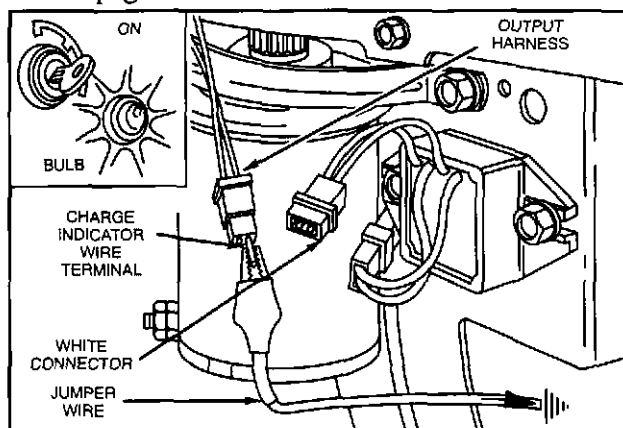

Fig. 26 - Testing Charge Indicator
3. Attach other end of jumper wire to charge indicator terminal in harness connector, Fig. 26.